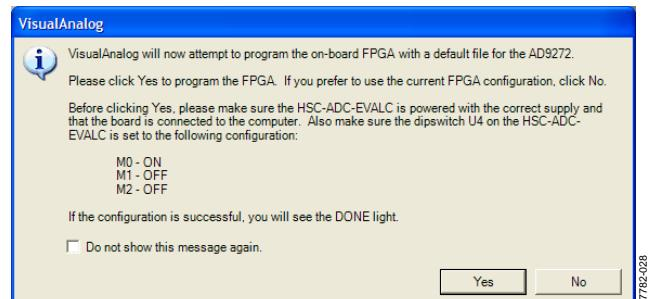

Figure 4. VisualAnalog, Default Configuration Message
2. After the template is selected, a message appears, asking if the default configuration can be used to program the FPGA (see Figure 4). Click **Yes**, and the window closes. If a different program is desired, follow Step 3.